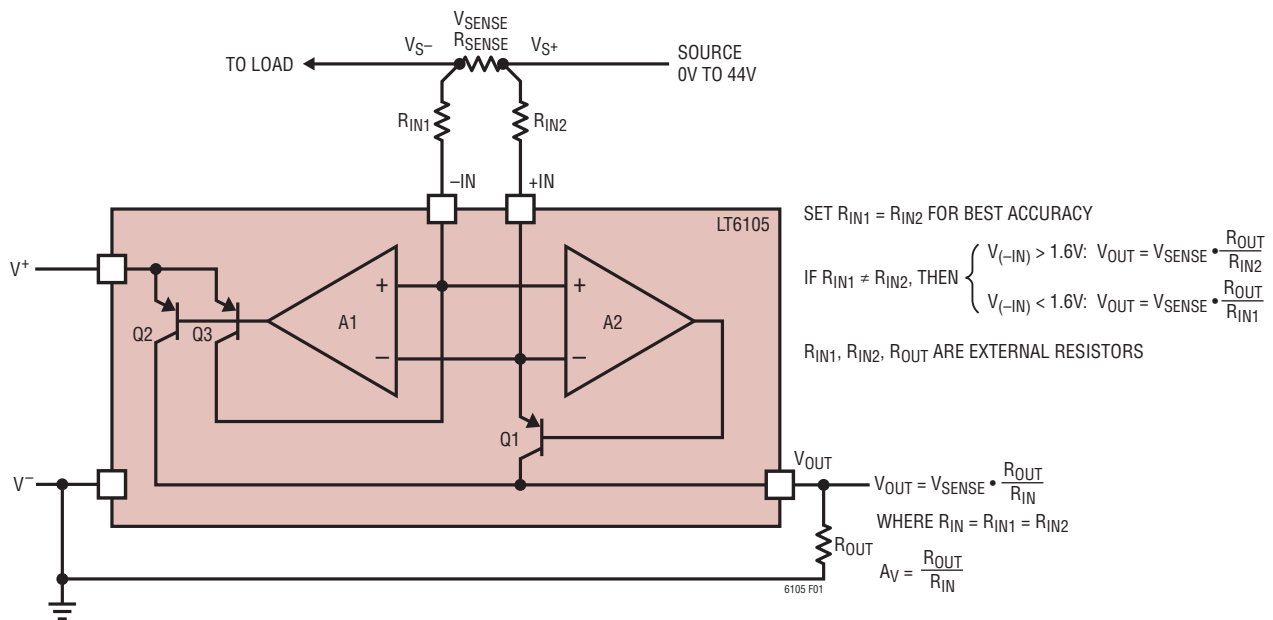

Figure 1. Simplified Block Diagram
**+IN (Pin 6/Pin 8):** Positive Sense Input Terminal. Connecting a source to  $V_S^+$  and a load to  $V_S^-$  will allow the LT6105 to monitor the current through  $R_{SENSE}$ , refer to Figure 1. Connect  $+IN$  to an external gain-setting resistor  $R_{IN2}$  to set the gain.  $+IN$  remains functional for voltages up to 44V, referred to  $V^-$ .
The LT6105 extended input range current sense amplifier (see Figure 1) provides accurate unidirectional monitoring of current through a user-selected sense resistor. The LT6105 is fully specified over a  $-0.3\text{V}$  to  $44\text{V}$  input common mode range. A high PSRR  $V^+$  supply (2.85V to 36V) powers the current sense amplifier. The input sense voltage is level shifted from the sensed power supply to the ground reference and amplified by a user-selected gain to the output. The output voltage is directly proportional to the current flowing through the sense resistor.
### THEORY OF OPERATION (Refer to Figure 1)
The crossover voltage, the voltage where the  $g_m$  of one input stage is transferred to the other, occurs at 1.6V above  $V^-$ . Near this region, one input stage is shutting off while the other is turning on. Increases in temperature will cause the crossover voltage to decrease. For input operation between 1.6V and 44V, the common base PNPs are active (Q2, Q3 of Figure 1). The typical current through each input at  $V_{SENSE} = 0V$  is 15 $\mu A$ . The input offset voltage is 300 $\mu V$  maximum at room temperature. For input operation between 1.6V to 0V, the other PNP is active. The current out of the inputs at  $V_{SENSE} = 0V$  is 100nA. The input offset voltage is untrimmed and is typically 300 $\mu V$ .
The LT6105 is designed to exhibit fast response to inputs for the purpose of circuit protection or signal transmission. This response time will be affected by the external circuit in two ways—delay and speed. If the output current is very low and an input transient occurs, there may be an increased delay before the output voltage begins changing. This can be improved by increasing the minimum output current, either by increasing  $R_{SENSE}$  or decreasing  $R_{IN}$ . The effect of increased output current is illustrated in the step response curves in the Typical Performance Characteristics section of this data sheet. Note that the curves are labeled with respect to the initial output currents. The speed is also affected by the external circuit. In this case, if the input changes very quickly, the internal amplifier will slew the base of the internal output PNP (Figure 1) in order to maintain the internal loop. This results in current flowing through  $R_{IN}$  and the internal PNP. This current slew rate will be determined by the amplifier and PNP characteristics as well as the input resistor,  $R_{IN}$ . See the Slew Rate vs  $R_{IN}$  curve in the Typical Performance Characteristics section. Using a smaller  $R_{IN}$  will allow the output current to increase more quickly, decreasing the response time at the output. This will also have the effect of increasing the maximum output current.